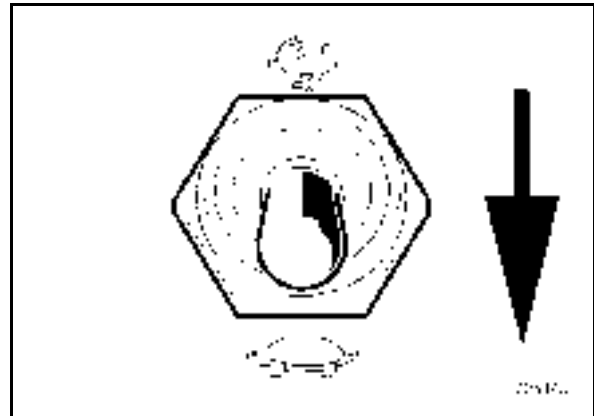

Fig. 43
- Set the toggle switch (Fig. 43) to the desired travel stage.